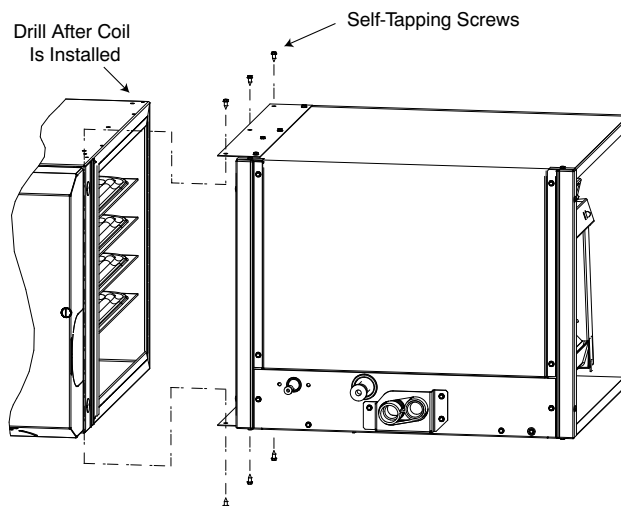

Fig. 6 – Attach Coil to Furnace
4. Use self-tapping screws to attach furnace (Fig. 6).